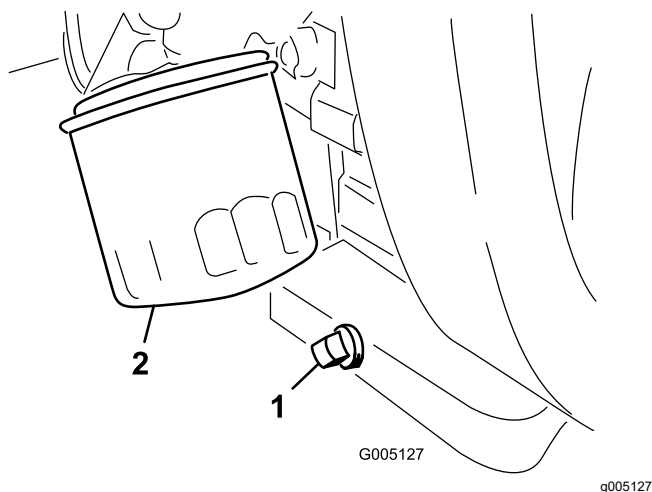

Figure 42
1. Remove the drain plug (Figure 42) and let the oil flow into a drain pan.
2. Clean the threads of the drain plug, apply PTFE sealant, and install the drain plug (Figure 42).
3. Remove the oil filter (Figure 42).